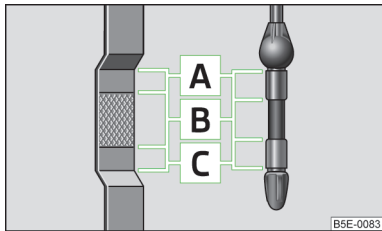

Fig. 163
- Do not drive on if the oil level is above range **A** » Fig. 163 on page 186 🛑. Switch off the engine and seek assistance from a specialist garage.
The dipstick indicates the engine oil level » Fig. 163.
The oil level must never be above the **A** range » Fig. 163 - there is a risk of damaging the exhaust system!